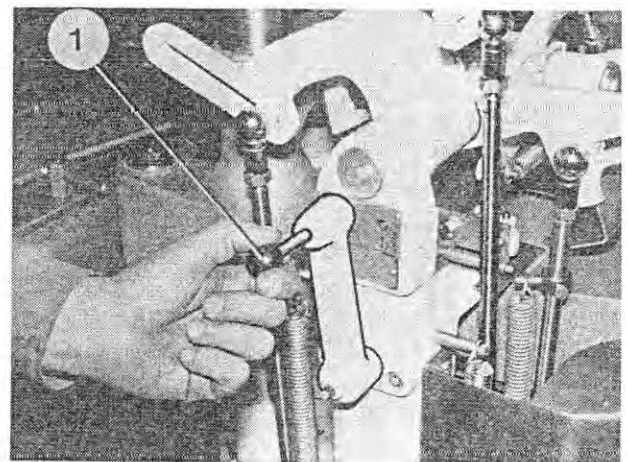

Fig. 121
18. Switch on the dosing unit, pulling out the index pin (Figure 121/1) and setting the lever to position „I“.